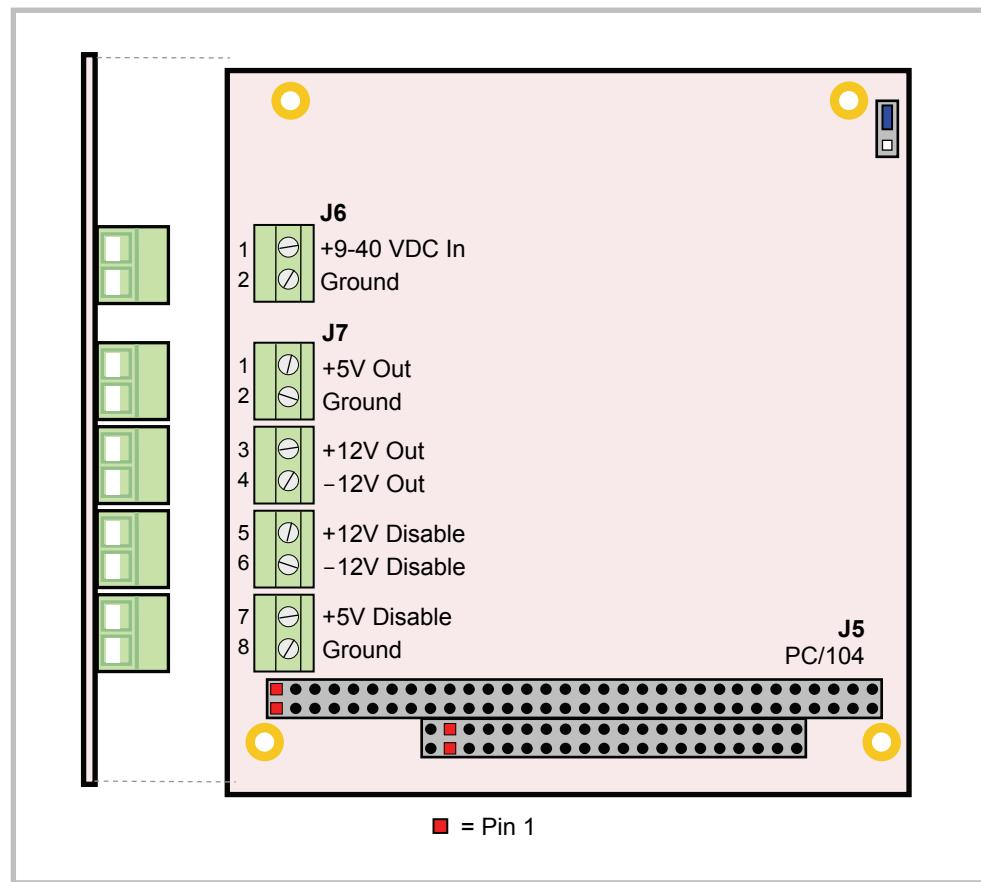

Figure 5. EPMs-PS1 Connectors – Top Side
1. The PCB origin is the mounting hole to the lower left, as oriented in Figure 5.